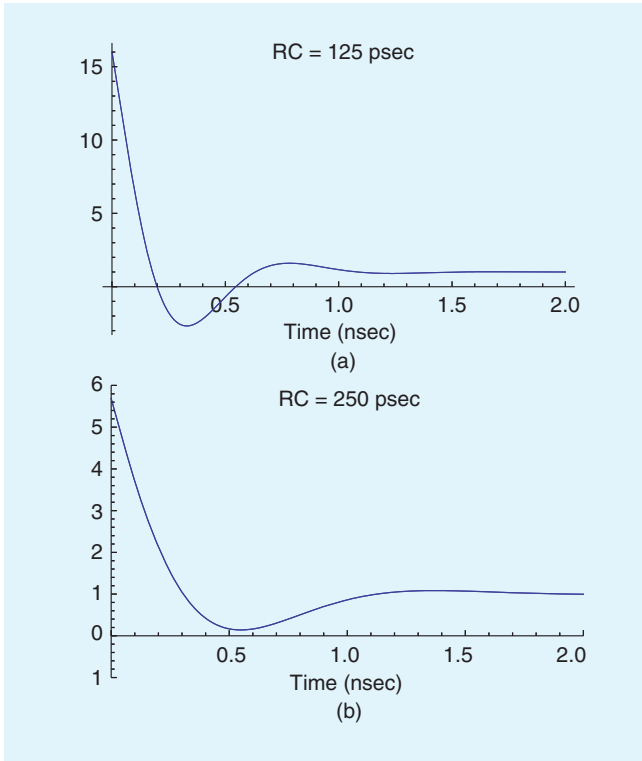

Fig. 7. Normalized vertical E-fields for the current profiles in Fig. 6.
where RC and LC are the values in Eq. (12). These are plotted in Figure 7.
sphere. However, the E-field at all radii also has a $t = 0$ step as in Fig. 7, which led us to the spark rise time poles of Eq. (14) and the more realistic fields of Fig. 8. Such rise time poles would remove the pure steps from E and H fields at the dark sphere and introduce a small but finite ExH energy flow during the spark rise time.